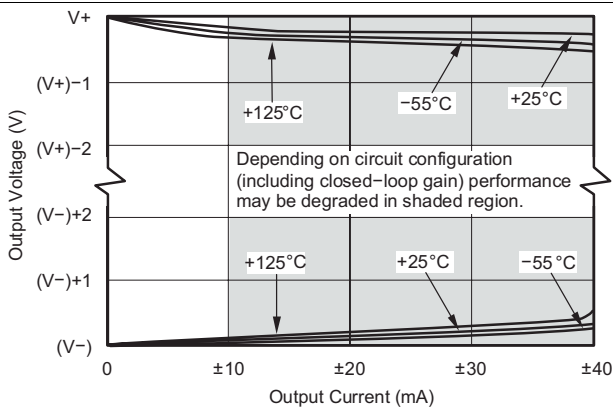

Figure 17. Output Voltage Swing vs Output Current
(5) See Figure 17.
A class AB output stage with common-source transistors achieves rail-to-rail output. For light resistive loads ( $>10$  k $\Omega$ ), the output voltage swing is typically ten millivolts from the supply rails. With heavier resistive loads (600  $\Omega$  to 10 k $\Omega$ ), the output can swing to within a few tens of millivolts from the supply rails and maintain high open-loop gain. See Figure 17 and Figure 18 for more information.